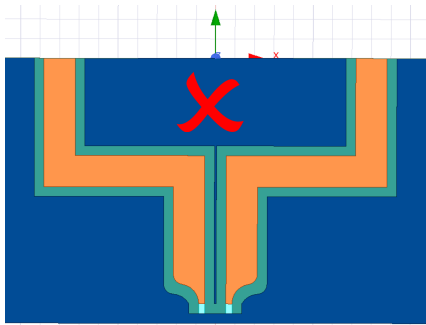

Figure 12: 90° bended track.
- Bends with 90° angle on the transmission line should be avoided as it will result in radiation and add unwanted reflections. Instead, curved transmission lines with a large radius (Min radius = width of the trace) should be used if needed as demonstrated in Figures 12 and 13.